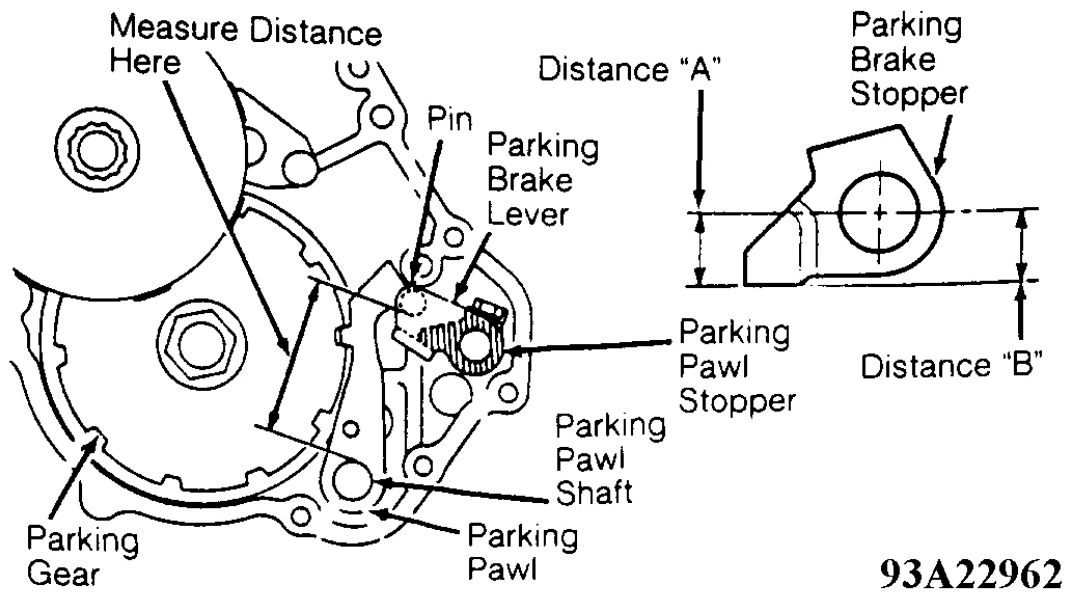

Fig. 38: Parking Brake Stopper Distance & Parking Brake
28. Place parking brake lever in "P" position and ensure parking pawl engages parking gear. Measure parking brake stopper distance between parking pawl shaft and pin on parking brake lever. See **Fig. 38** .
30. Parking brake stopper is available in different sizes. See **Fig. 38** . See **PARKING BRAKE STOPPER SPECIFICATIONS** table.